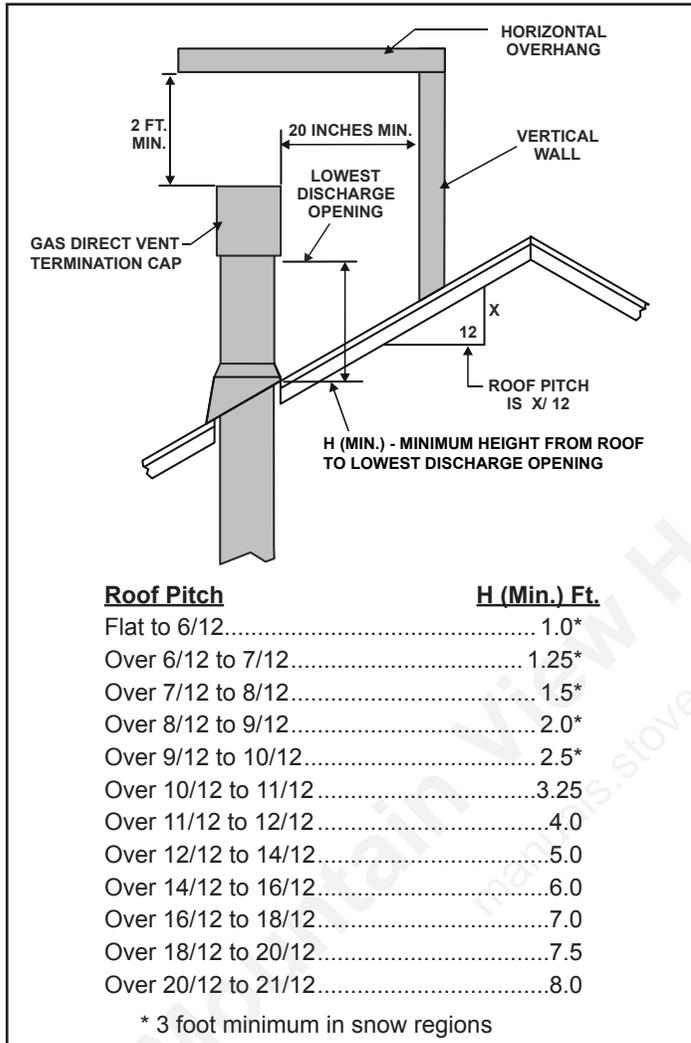

Figure 7.11- Minimum Height From Roof To Lowest Discharge Opening
- See minimum vent heights for various pitched roofs (Figure 7.11) to determine the length of pipe to extend through the roof.